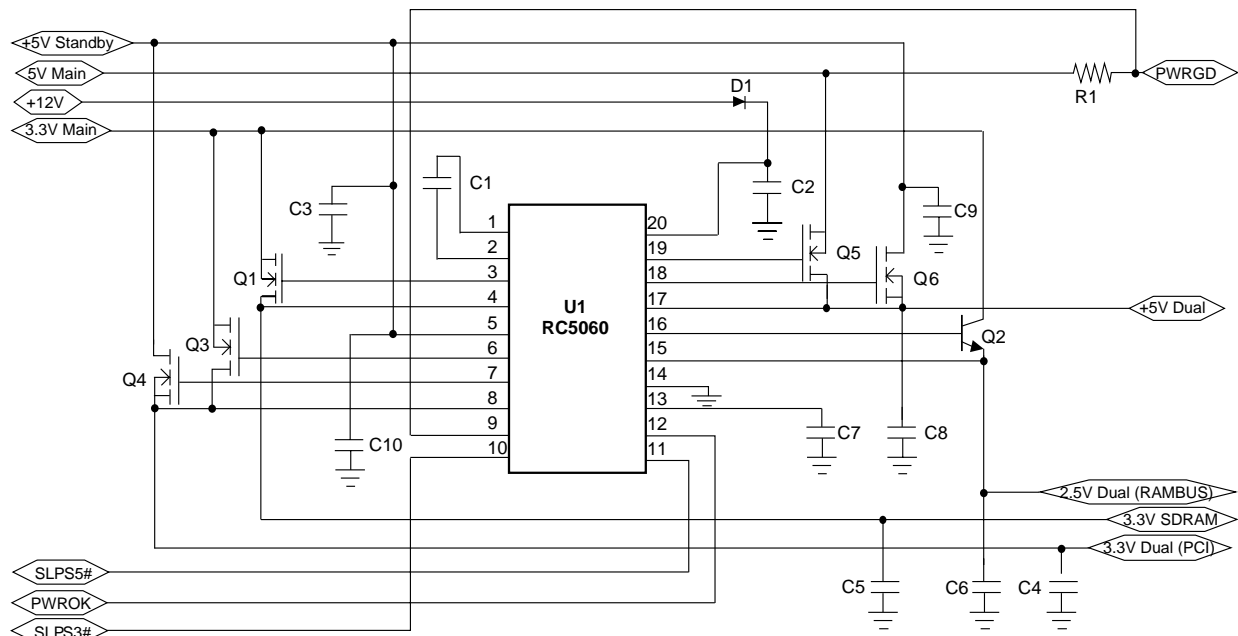

Figure 3. Camino ACPI Selector
( $V_{+5VSTBY} = V_{+5VMAIN} = 5V$ ,  $V_{+3.3V} = 3.3V$ ,  $V_{+12V} = 12V$  and  $T_A = +25^{\circ}C$  using circuit in Figure 3, unless otherwise noted.)
5V dual is generated by two MOSFET switches, one from +5V main, the other from +5V standby, as shown in Figures 3 or 4. When main power is present, the first switch is on and the second off, and the opposite when main power is absent. Note carefully the polarity of the MOSFET Q5 that delivers power from the +5V main to the 5V dual: opposite to the connection of Q6, the source is connected to the +5V main input, and the drain is connected to the 5V dual output. This connection must be done this way because of Q5's body diode. When +5V main is not present, 5V dual is still on, and if Q5 were connected with the same polarity as Q6, the dual voltage would conduct through the body diode of Q5, attempting to power up the entire +5V main line. It is to avoid this overload that Q5 must be connected as shown.
3.3V dual is generated by two MOSFETs, one from +3.3V main, the other from +5V standby, as shown in Figures 3 or 4. When main power is present, the MOSFET Q3 is turned on as a switch, so that input and output are connected together. When main power is absent, the MOSFET Q4 is controlled by the RC5060 as a linear regulator, generating a regulated 3.3V from +5V standby. As with the 5V dual, the MOSFET Q3 must be connected as shown in the figures, to avoid back-feed.
3.3V SDRAM is generated by one external MOSFET switch from +3.3V main, and one linear regulator internal to the RC5060 from +5V standby, as shown in Figures 3 or 4, and in the block diagram on the front page. When main power is present, the MOSFET Q1 is turned on as a switch, so that input and output are connected together. When main power is absent, the internal linear regulator is on, generating a regulated 3.3V from +5V standby. As with the other duals, the MOSFET Q1 must be connected as shown in the figures, to avoid back-feed.
2.5V dual is generated by one external NPN bipolar acting as a linear regulator from +3.3V main, and one linear regulator internal to the RC5060 from +5V standby, as shown in Figure 3, and in the block diagram on the front page. When main power is present, the NPN Q2 linear regulates, and when main power is absent, the internal linear regulator is on. Q2 cannot be substituted with a MOSFET. If used in one direction, the MOSFET's body diode would permit back-feed; if used in the other direction, it would short-circuit the linear regulator action.
In main power operation, the RC5060 is run from the +12V main supply. This supply also provides voltage to the various MOSFET gates. However, during standby, this supply is off. To provide power to the chip and the appropriate gates, the RC5060 incorporates a free-running charge pump. As shown in Figures 3 and 4, and in the block diagram on the front page, a capacitor attached between pins 1 and 2 of the RC5060 acts as a charge pump with internal diodes. The charge pump output is internally diode or'ed with the 12V input. The 12V input must have a series diode to prevent back-feeding the charge pump to the +12V main when in standby. The 12V input line needs a bypass capacitor for high-frequency noise rejection.